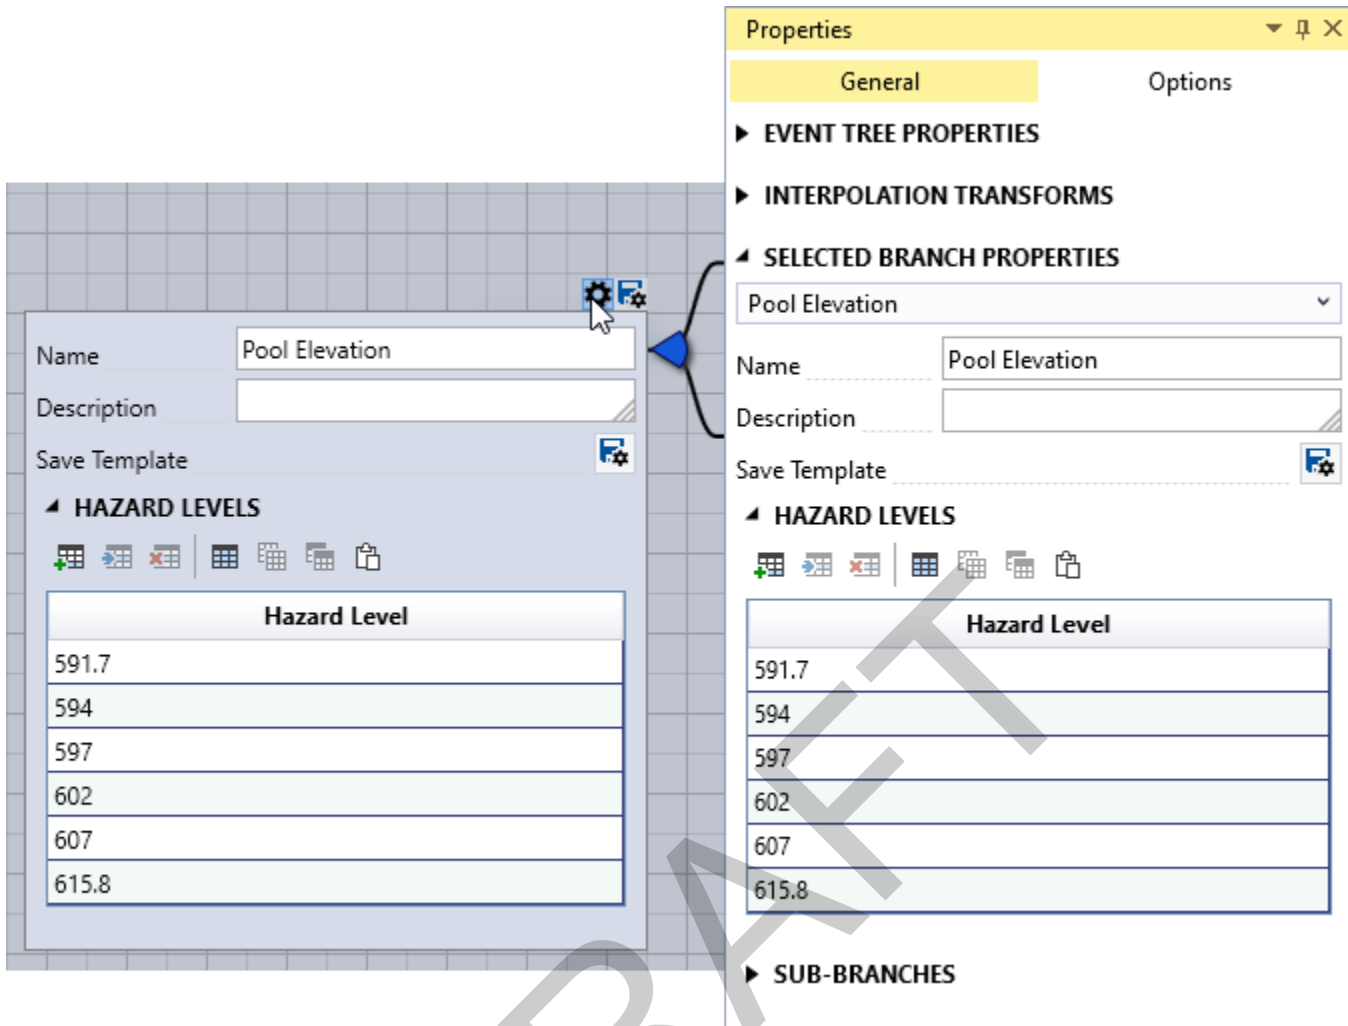

Figure 88 – Event tree selected node properties editor in the properties window and from the node toolbar options, completed Initiating Hazard Node.
- 1) Define the hazard. Click on the Initiating Hazard Node branch, *Hazard*, to select it. Once selected, edit in the **Properties Window** under the **Selected Branch Properties** sub-section (Figure 88). Alternatively, the branch can be edited by clicking the branch properties button, , in the event tree node toolbar. Change the name to *Pool Elevation* and,